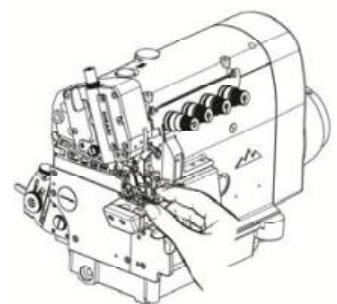

Fig.2
- Check to see if the presser foot is secured(raise the presser foot by the foot lifter and press it by hand front to back and left to right)(Fig.2)